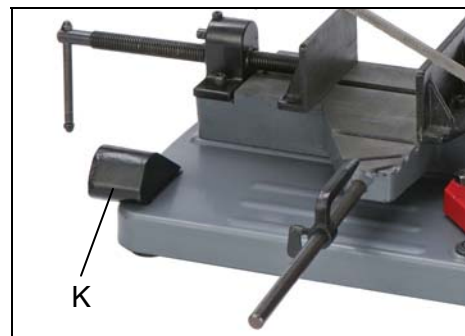

Fig. 8
3. Take the weight block out by sliding it to the left side from the base (K) Fig.8.